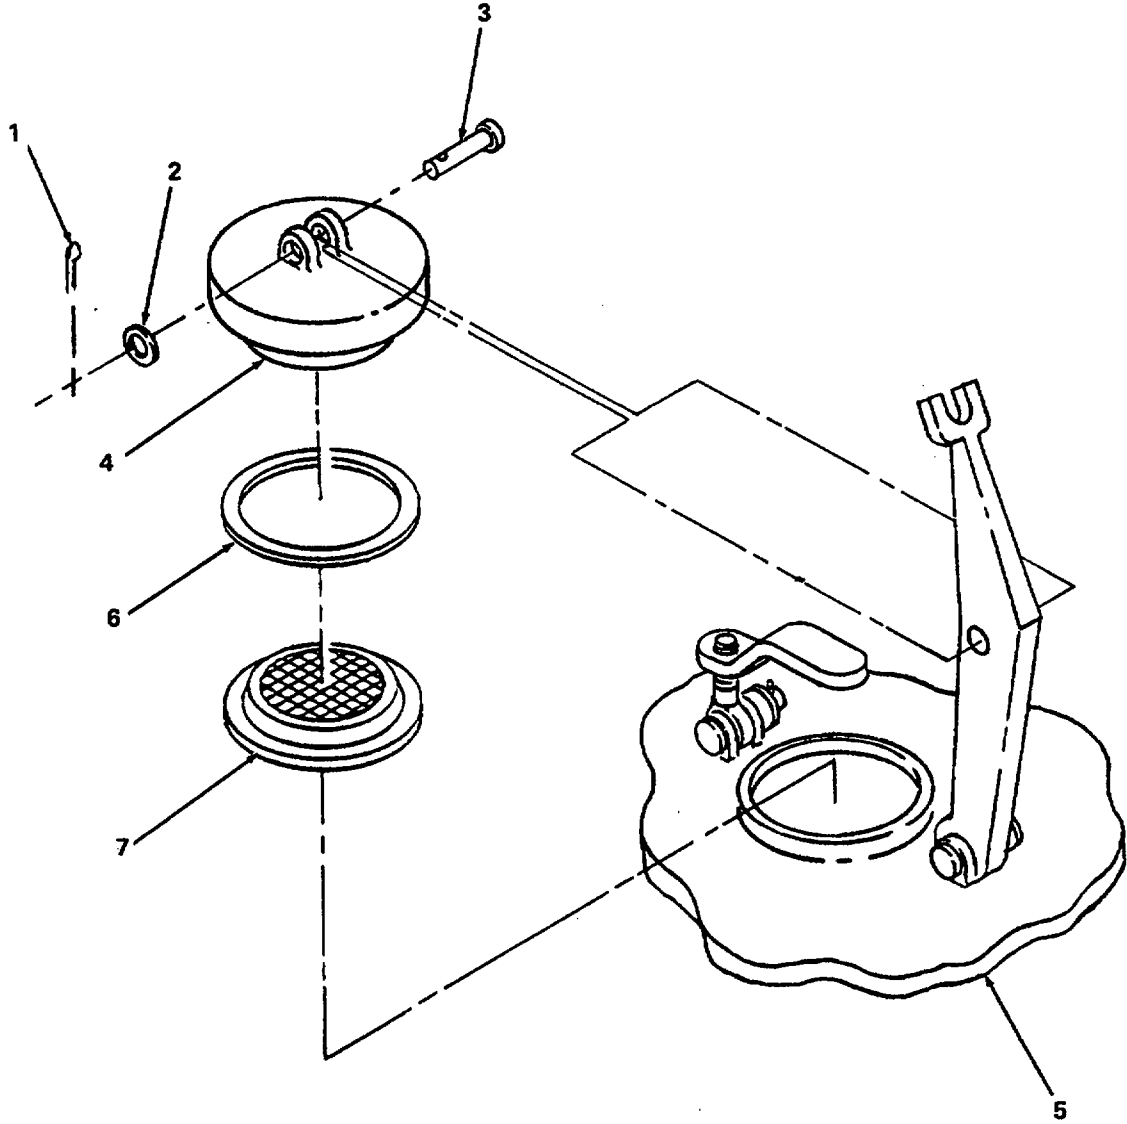

Figure 3-3. Ullage Hatch and Flame Screen Replacement.
(1) Remove hatch.
- (b) Remove cotter pin (1, figure 3-3), washer (2), and pin (3).
- (c) Remove hatch (4) from ullage tank (5).
(2) Remove gasket and flame screen.
- (a) Remove gasket (6) from hatch (4).
- (b) Remove flame screen (7) from ullage tank (5).